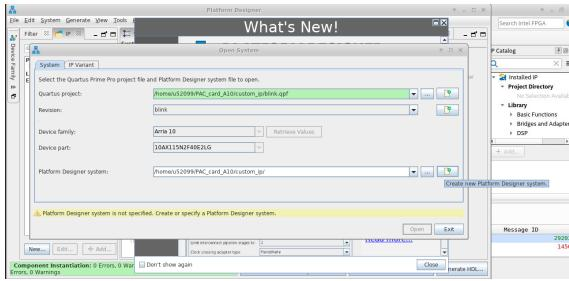
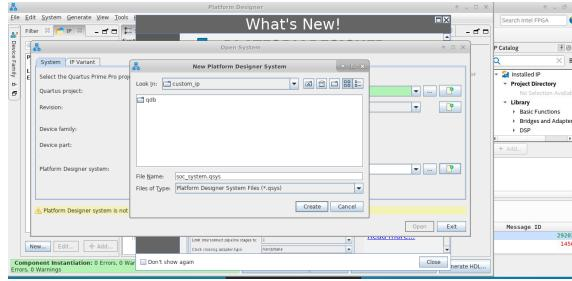

Figure 13: Create Platform Designer
Figure 15: Save the .qsys file Platform Designer
- Select the Platform Designer system, or click the Create New Platform Designer System button as shown in Fig. 13 and specify the name of a new system as shown in Fig. 15 and 16